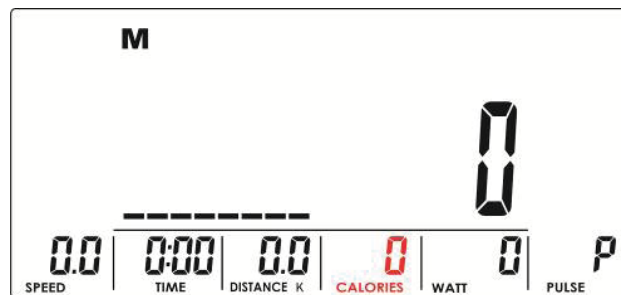

Fig. 22
3. Hold the handles with both hands during the measuring. Once the console has detected the pulse, the LCD screen displays === for eight seconds (fig. 22) until the measuring is finished.